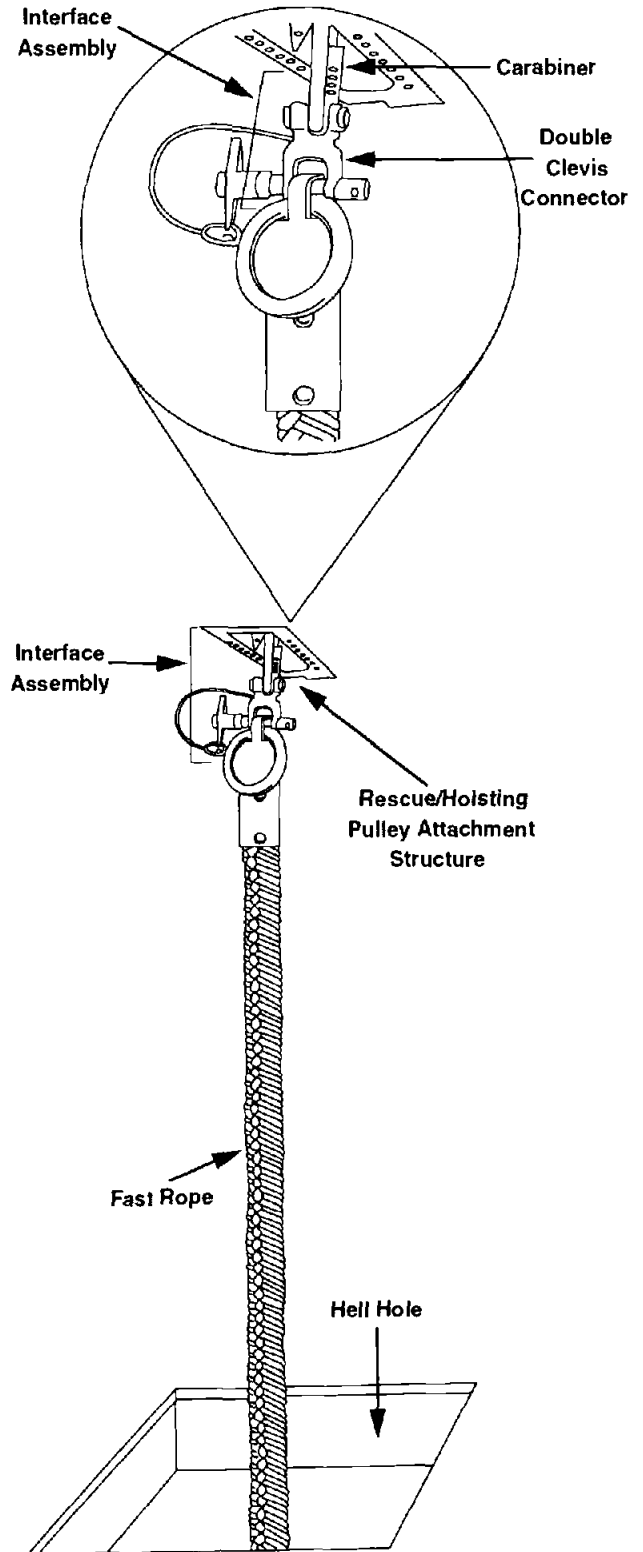

Figure 5-2. Fast Rope Interface Kit.
- Fast rope head cap assembly ring is attached to the double clevis with a quick disconnect pin. The quick disconnect pin handle should be facing the HRST master. See figure 5-2.